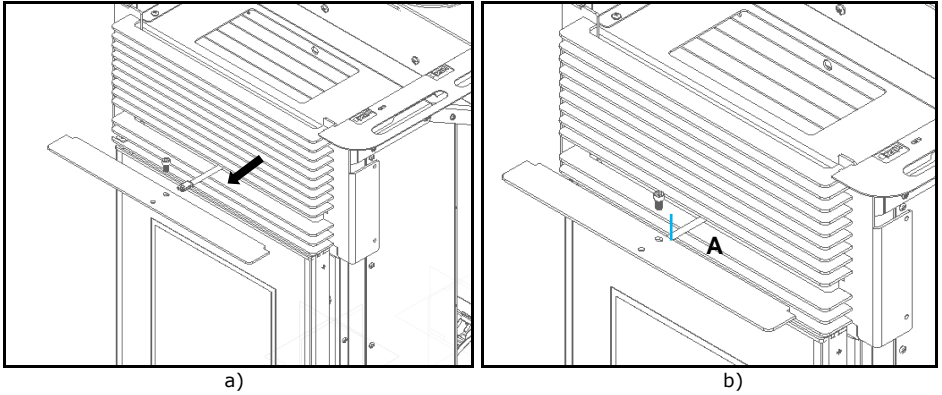

Figure 95 – Registry pad grip
e) Repeat the process described in b) and c) in this manual for the other casing and secure the side parts using four screws **B** (DIN 7981 4,2x9,5) from the kit, two on each side, as shown in Figure 95.